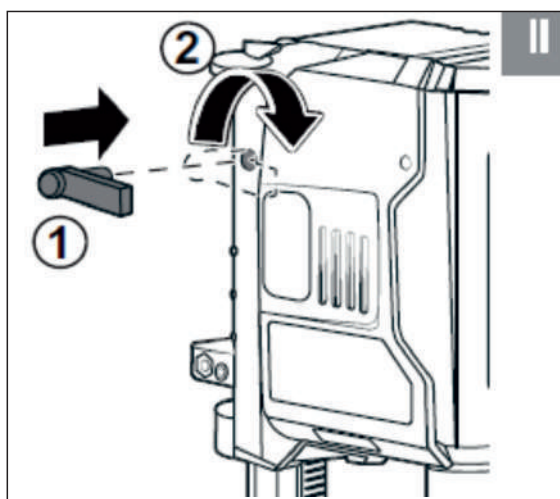

Рис. 4.2/ Fig. 4.2
- Screw in the depth limiter (9) fixing bolt (8) as shown in Figure 4.2;